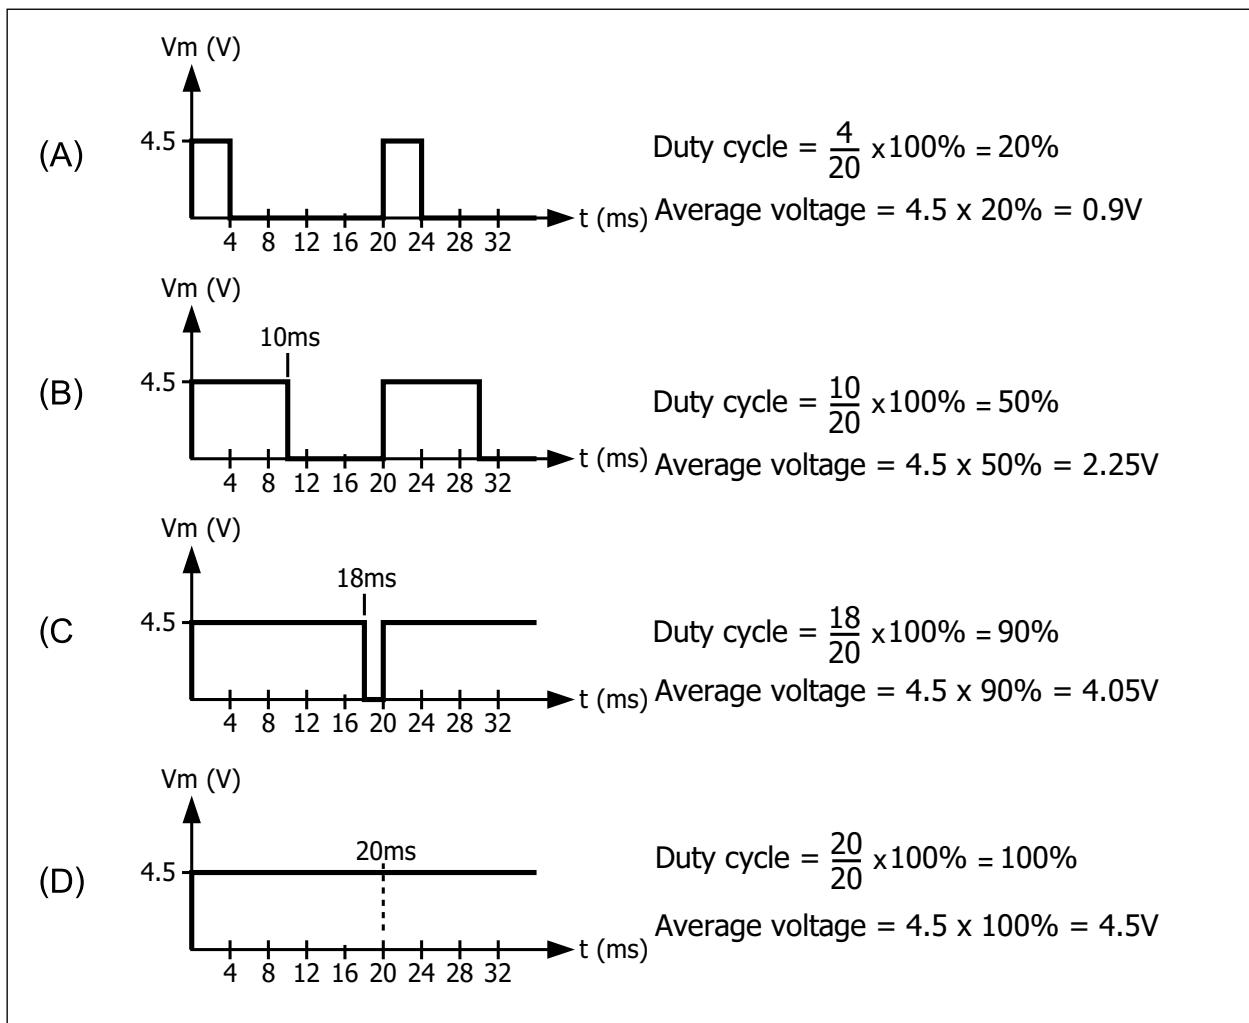

Figure 5-2 : Shows the relation between the different duty cycle and voltage across the DC motor.
Although the duty cycle is determine the motor speed. But DC motor can operate at limit frequency. If the PWM frequency is over the limit, DC motor will stop because its operation reach to saturation point. The example PWM signal in figure 5-2 has 20 milliseconds period and 50Hz frequency.
In Figure 5-2 (A) the PWM duty cycle is 20%. Motor will rotate with lowest speed because the voltage drop is only 0.9V. When increase the duty cycle in Figure 5-2 (B) and (C), voltage is applied to DC motor increase. Its speed is increase too.
In Figure 5-2 (D) the voltage is applied to DC motor full level because duty cycle is 100%. Thus, controlling the PWM duty cycle is a method of motor speed control.
The figure 5-2 shows the PWM signal at any duty cycle.
Figure 5-2 shows the PWM signal at any duty cycle.